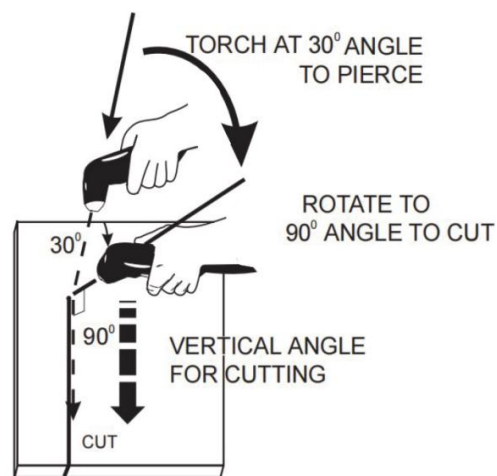

Figure 17 Cutting operation
4. Figure 17 is for reference only.
Cutting torch reference Figure 17 cutting torch head. If the accessories of cutting torch need to be replaced, please log in to the official website: